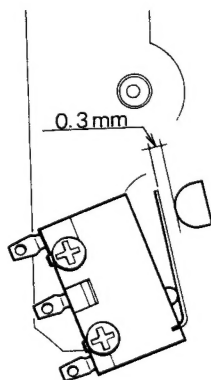

Fig. 24
- 2) By gently pressing the STOP control the microswitch will come on. Check to see if the motor is rotating at this point. Next, by releasing your finger from the STOP control the button will return, and when the microswitch goes OFF, check to see if there is a gap of approximately 0.3mm between the lever switch and the microswitch. (See figure 24)